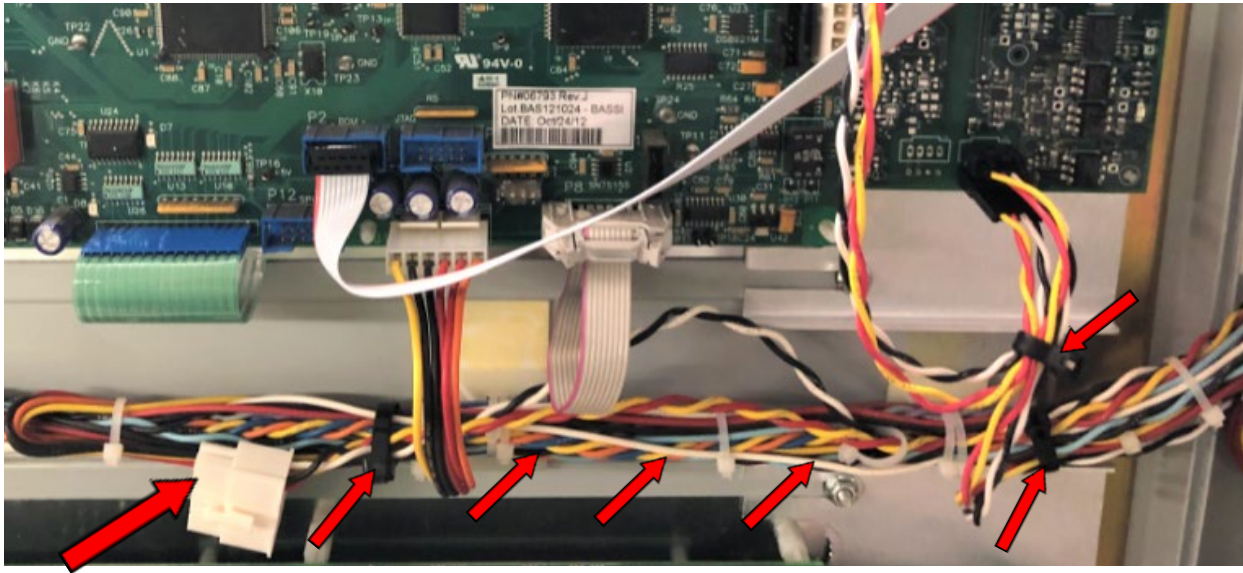

Figure 10 Disconnected BMID Connector J13(P13) and BMID Cable Tied Securely to the Harness with Cable Ties For Channel A cables
- 4.3.5. Disconnect the BMID connector J13(P13) from the Channel A of DVS100/DVS150 control board, and tie it, along with the attached BMID cable, securely to the harness with provided cable ties (Figure 10).